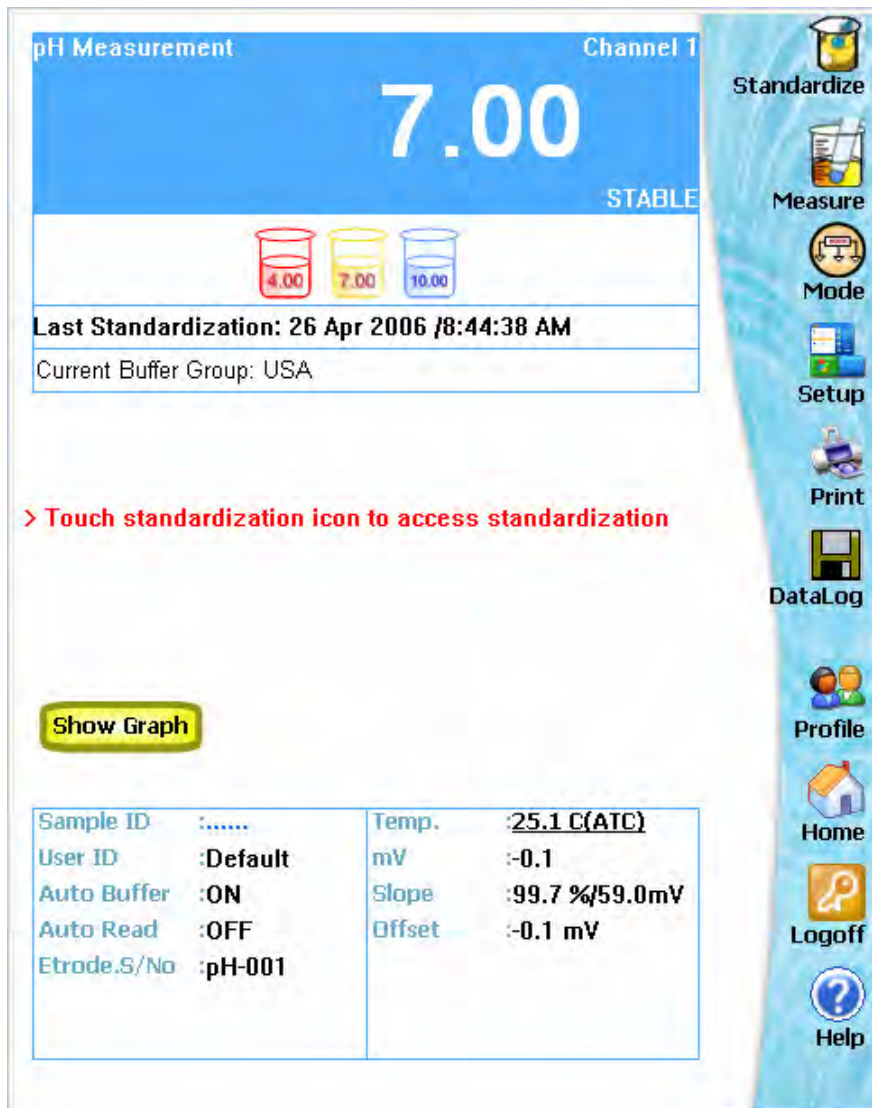

Figure 32 : Single channel measurement screen
4. The right-pane (workspace) displays the measuring screen of the selected parameter of the channel. (Figure 32). This screen is the same as the measurement screen of CyberScan meter.